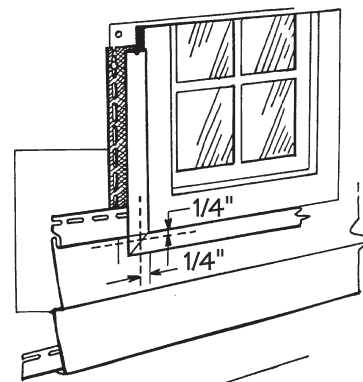

Figure 40.
- Hold the panel under the window and mark the width of the window opening on the panel. Add approximately  $\frac{1}{4}$ " to both sides to allow for expansion and contraction of the siding. These marks represent the vertical cuts (Fig. 40).